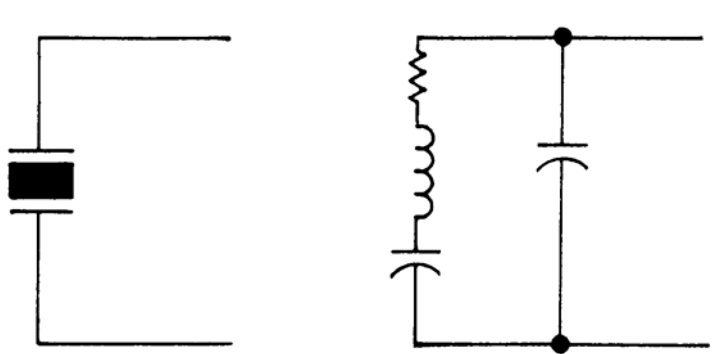

Figure C-1. Crystal Schematic Symbol and Equivalent Circuit
- b. Figure C-1 illustrates a crystal equivalent circuit and the schematic symbol. Crystals are only used in oscillators operating in the radio frequency (RF) ranges.